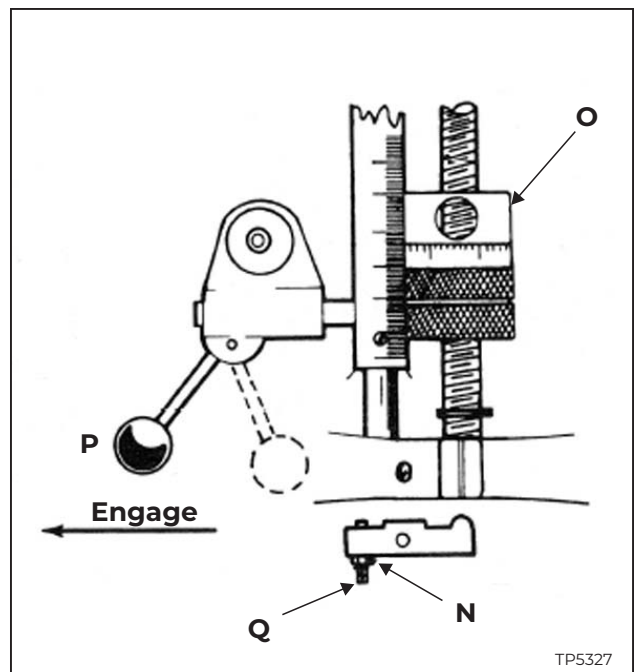

Figure 3.8 - Feed Trip Adjustment
7. Check correct operation of micro feed trip assembly together with feed trip linkage as per feed tripping adjustment (see Figure 3.8).
1. Release locknut "N", Figure 3.8.